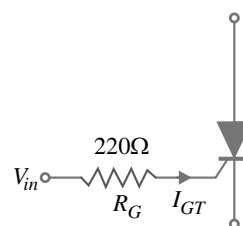

Fig. 18.6
**Example 18.4.** A  $220\Omega$  resistor is connected in series with the gate of an SCR as shown in Fig. 18.6. The gate current required to fire the SCR is 7mA. What is the input voltage ( $V_{in}$ ) required to fire the SCR ?